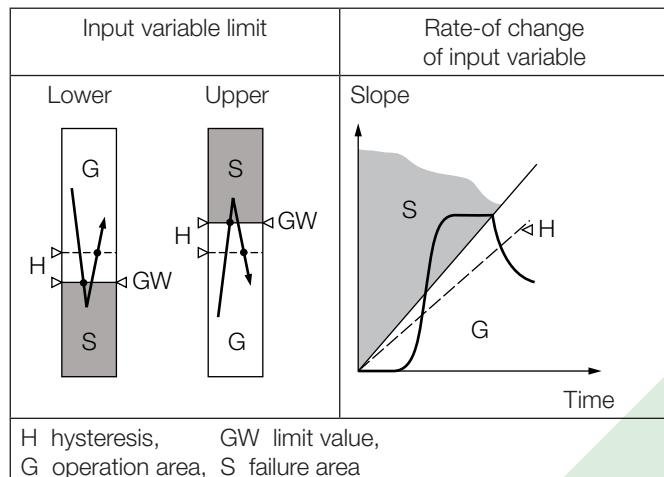

Fig. 5. Switching function according to limit monitored.
- Lower limit value of the measured variable (see Fig. 5, left)
- Upper limit value of the measured variable (see Fig. 5, left)
- (see Fig. 5 right)